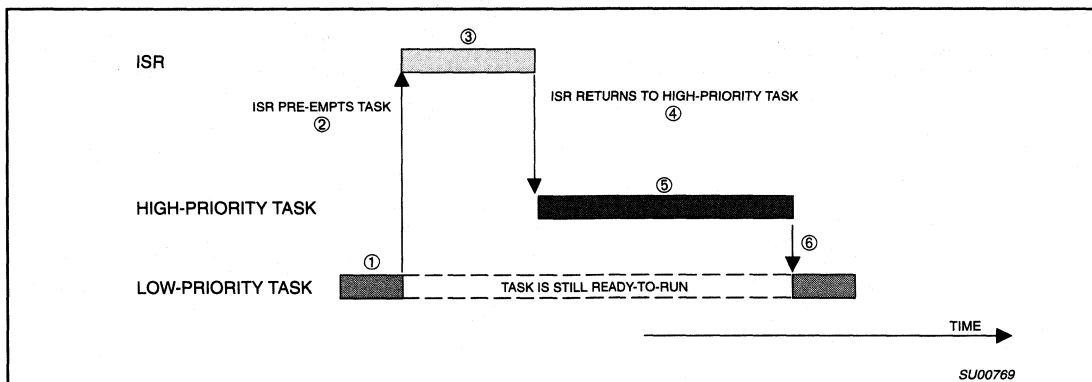

Figure 1.
Most real-time kernels are *preemptive*. A preemptive kernel ensures that the highest-priority task ready-to-run is always given control of the CPU. When an ISR (Interrupt Service Routine) makes a higher-priority task ready-to-run, the higher-priority task will be given control of the CPU as soon as all nested interrupts complete. The execution profile of a system designed using a preemptive kernel is illustrated in Figure 1. As shown, a low-priority task is executing ①.